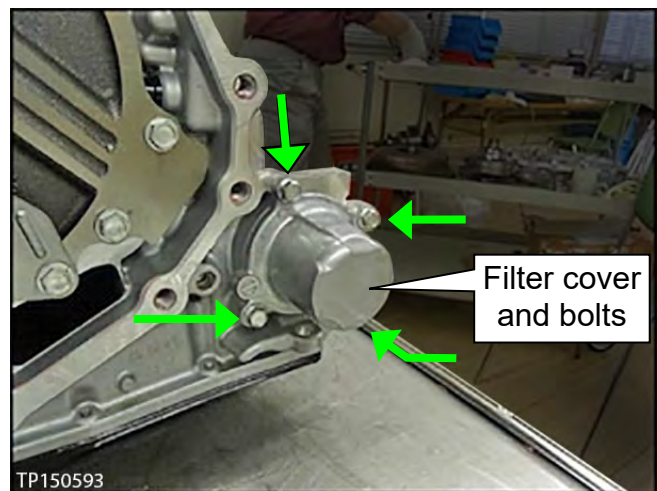

Figure 85
2. Install the filter cover (see Figure 85).